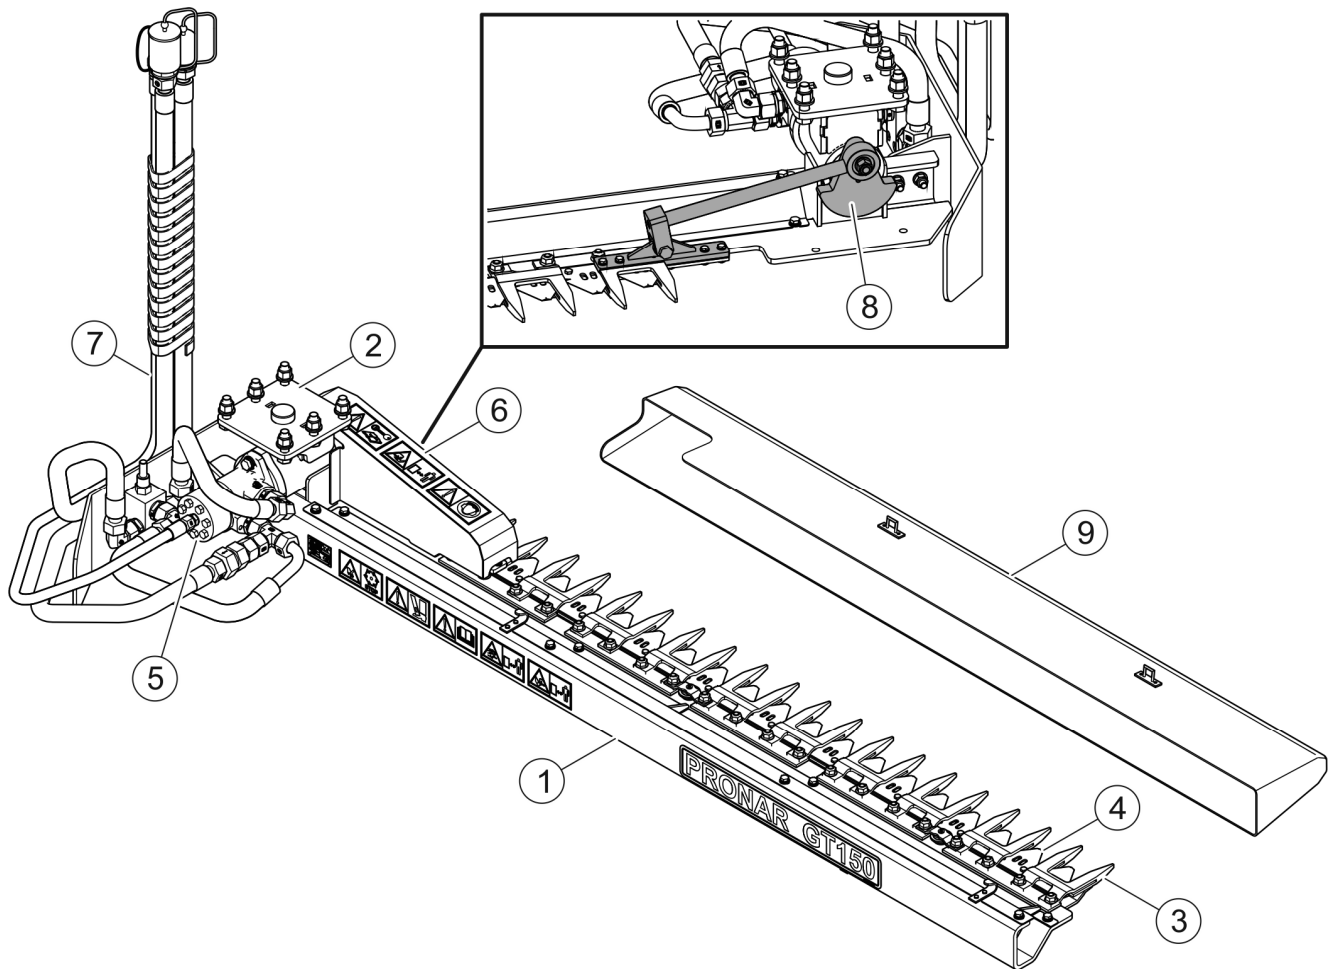

FIGURE 3.2 General design.
(1)- frame; (2)- connection; (3)- bayonet; (4)- cutter bar; (5)- hydraulic motor; (6)- drive shield; (7)- hydraulic lines; (8)- crank system; (9)- cutter bar transport protective guard.
The trimmer consists of frame (1) (FIGURE 3.2) with connection (2) that enables the connection of the trimmer with the multifunction arm.